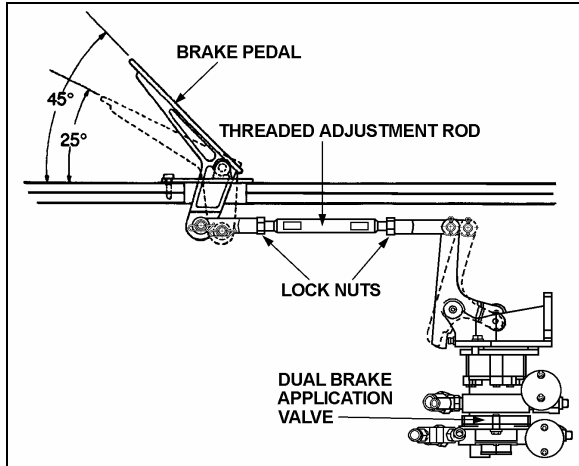

FIGURE 12: BRAKE PEDAL ADJUSTMENT
The E-10P dual brake valve is a floor mounted, foot-operated type brake valve with two separate supply and delivery circuits. This valve is located in the front service compartment (Fig. 12).
1. Replace the linkage, loosen threaded rod lock nuts and screw or unscrew the threaded adjustment rod in order to obtain a 45° brake pedal inclination (Fig. 12).